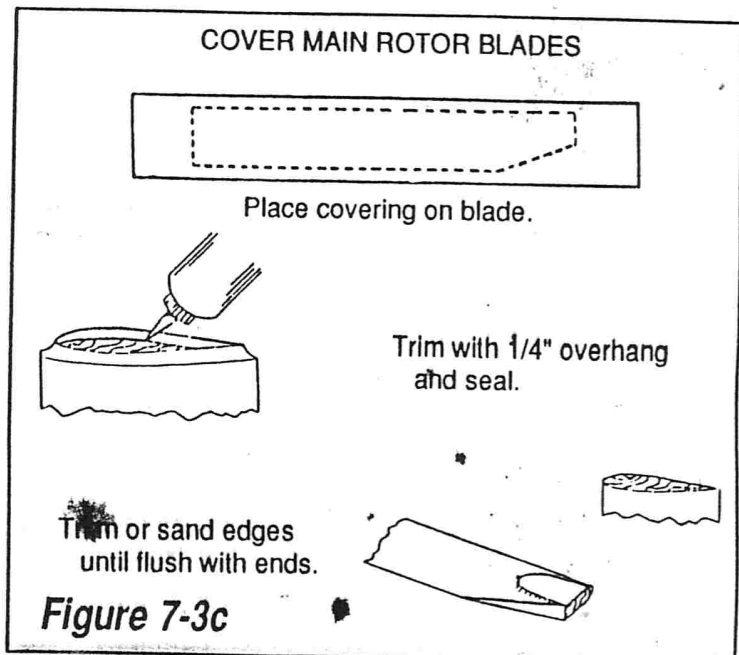

Figure 7-3c
Step 75. Building Main Rotor Blades (see Figure 7-3c)
Lightly sand each blade with 320-400 grit sandpaper. Sand away all the sharp edges. The blade grid may be rounded if desired. Place the blade covering over the blade (see figure 7-3c)